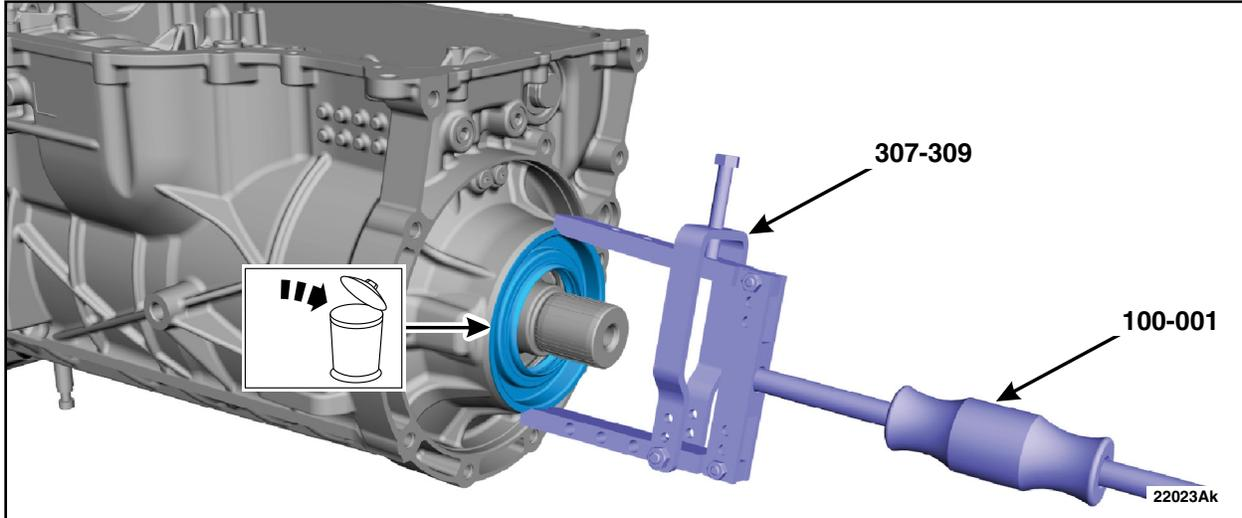

FIGURE 13
16. Using the Special Service Tool: 100-001(T50T-100-A) Slide Hammer., 307-309 Remover, Torque Converter Seal, remove and discard the output shaft seal. See Figure 13.